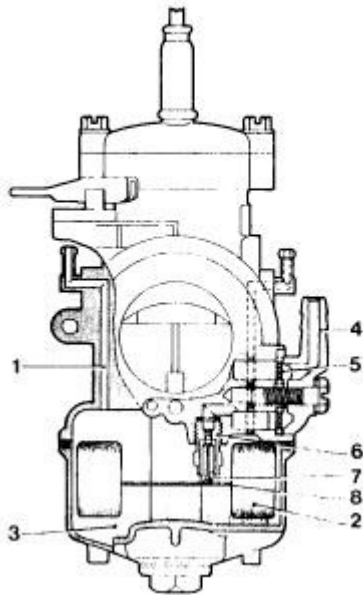

fig.9
It is therefore advisable to use fuel taps and pipes of adequately large size. Further, check that fuel filter (5) in the union banjo (4) of the carburettor is clean. Fuel from the tank supplies the carburettor (fig.9) through a valve in which a float-controlled needle operates (2).